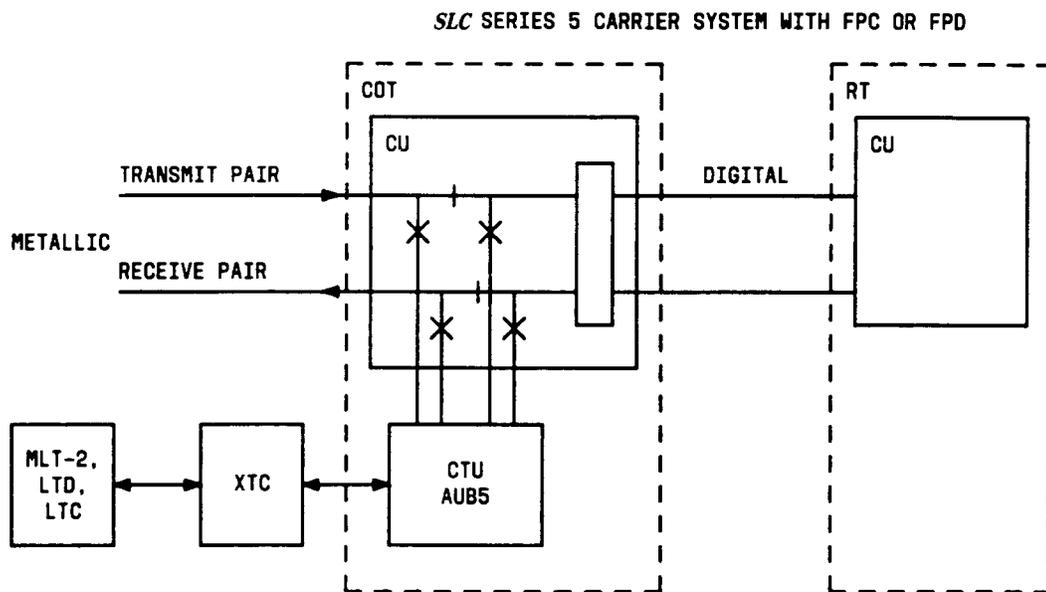

Figure 5 — MLT-2 Test Access to COT Metallic Connection
- Access to the drops at the COT. If the drop is a 4-wire circuit an MLT-2, LTD, or local test cabinet can request access to each loop, one at a time (Figure 5).